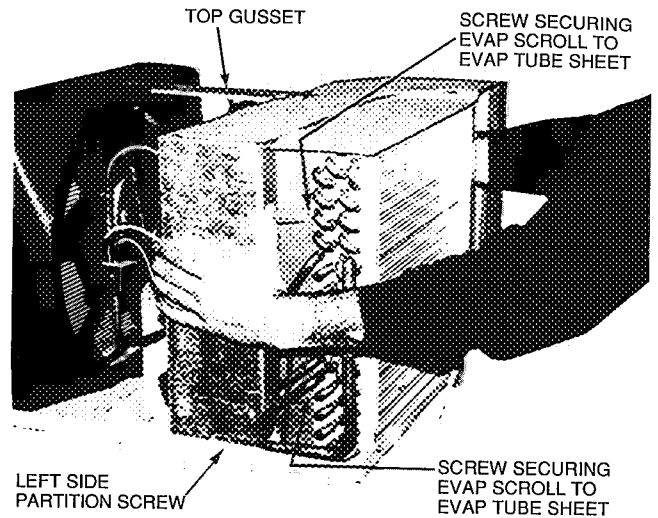
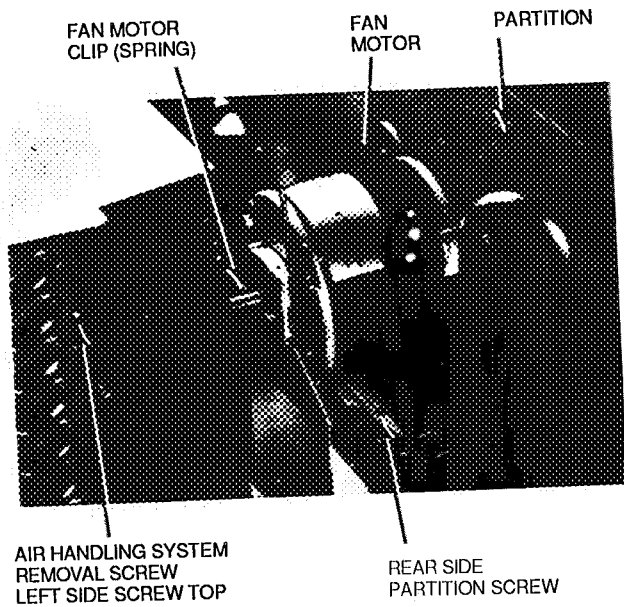

Fig. 16 – Preparing to Lift Air Handling System
Fig. 17 – Removing Fan Motor Clip
2. Remove 2 screws securing partition to basepan as shown in Fig. 15, and one screw on left side (Fig. 16), and one screw on rear side of partition (Fig. 17), in area of motor.
3. Remove 2 screws securing evaporator scroll to evaporator tube sheet. See Fig. 16.
6. Remove fan motor clip. See Fig. 17.